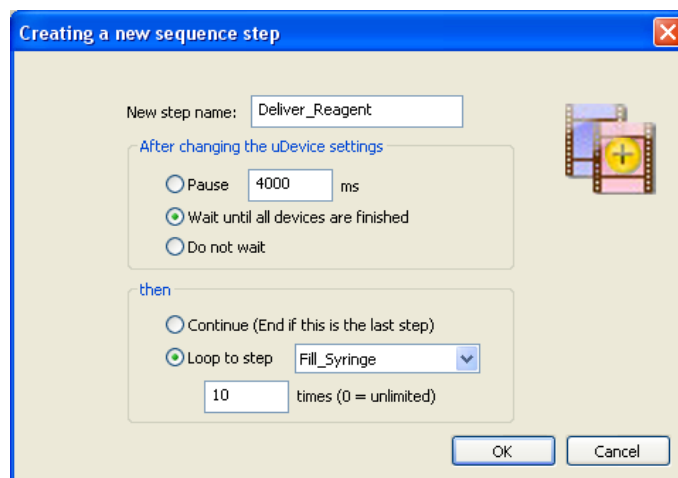

Figure 31. Deliver_Reagent Step Settings.
21. Select **Loop to Step** and choose **Fill Syringe** from the drop down menu. Set the loop count to 10, and the process will repeat for 10 iterations. (Figure 31).